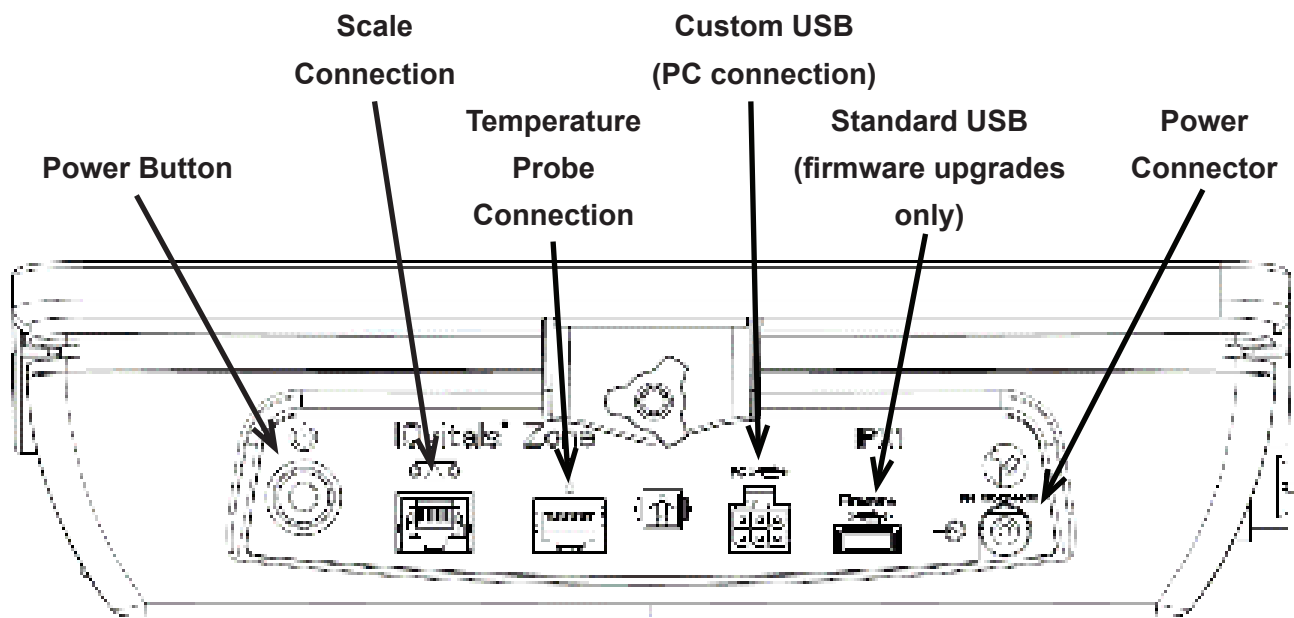

Figure 4
- A) Connect the temperature probe cable to its connector located on the back of the device (see Figure 4).
The power input is located on the back of the device (see Figure 4). Attach the DC Power Input Cord to the back of the device and plug the other end into the power supply. The AC Power Cord can now be plugged into an AC wall outlet.
To activate power to the device, press the Power button on the back of the device (see Figure 4). When the unit is on, a green light will appear in the lower left front of the device top surface.
To power off the device, press the Power button on the back of the device (see Figure 4). When the unit is off, the green light in the lower left front of the device will be off and the device screen will be blank.